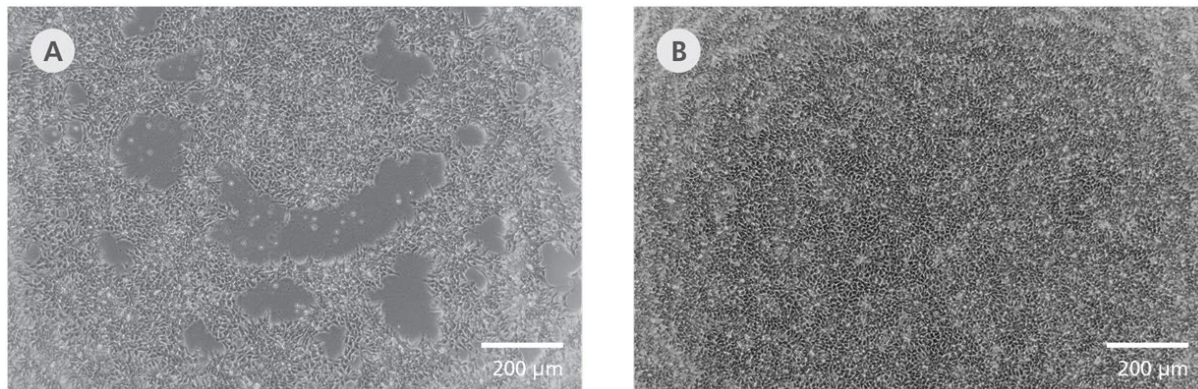

Figure 1. Day 1 hPSC Cultures
1. On **day 1**, prepare Medium 1 and Medium 2 (Preparation section B). Refer to Figure 1 for representative images of the starting confluence of hPSC cultures.